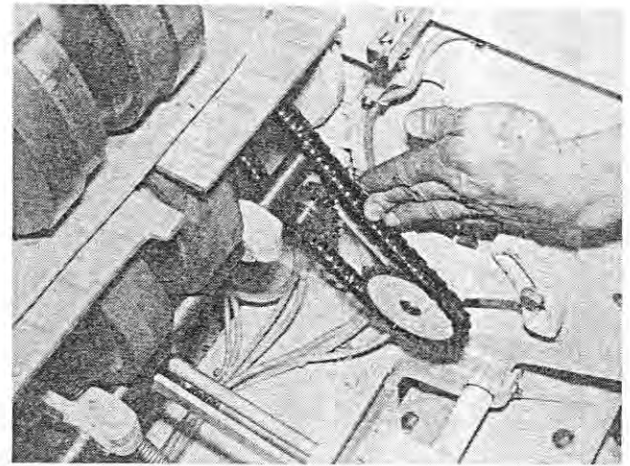

Fig. 65
2. Apply pressure to the longest exposed section (Figure 65). The chain must deflect by 10...15 mm.